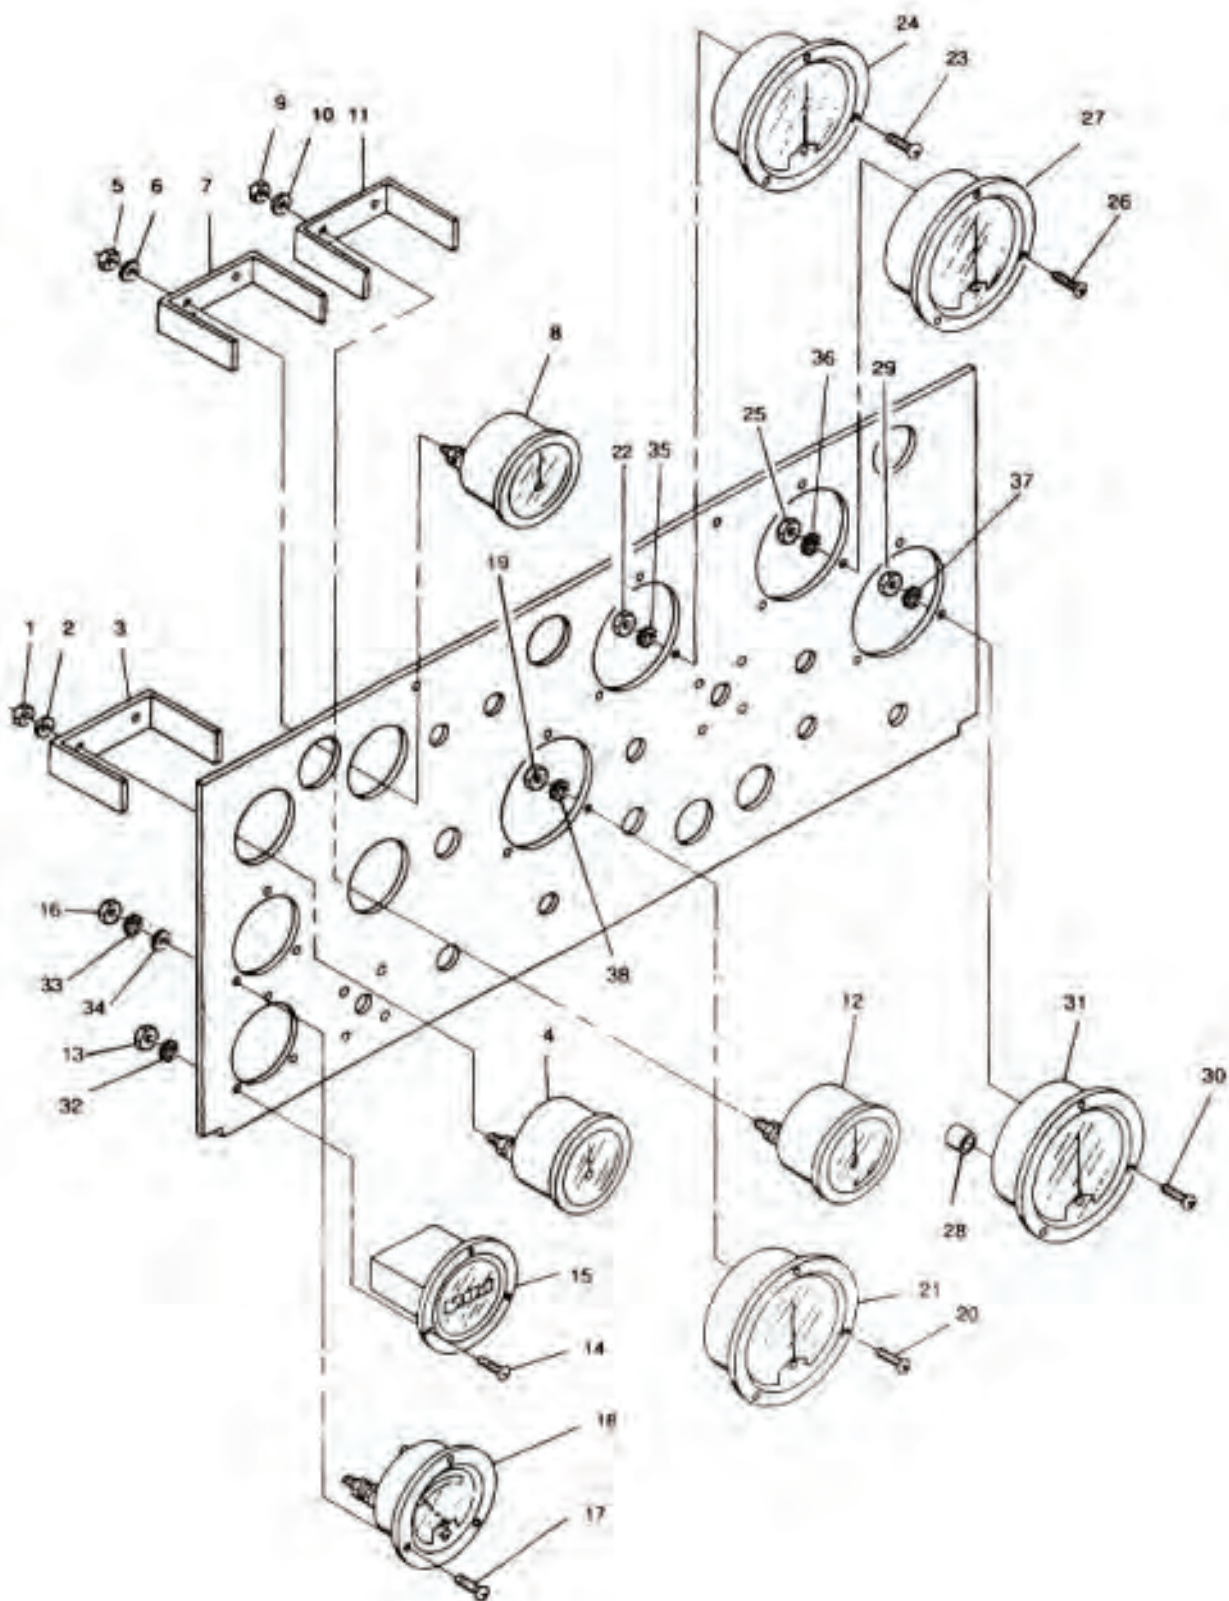

Figure 1. Control Panel Indicators.
4. Tag and disconnect FUEL LEVEL indicator (Figure 1, Item 4) electrical leads.
5. Remove nuts (1), washers (2), and clamp (3).
6. Remove FUEL LEVEL indicator (4) from control panel.
1. Insert FUEL LEVEL indicator (Figure 1, Item 4) into control panel.
2. Install clamp (3), washers (2), and nuts (1).
WP 0023, Figure 1, Item 8
4. Tag and disconnect TEMPERATURE indicator (WP 0023, Figure 1, Item 8) electrical leads.
5. Remove nuts (5), washers (6), and clamp (7).
6. Remove TEMPERATURE indicator (8) from control panel.
1. Insert TEMPERATURE indicator (WP 0023, Figure 1, Item 8) in control panel.
2. Install clamp (7), washers (6), and nuts (5).